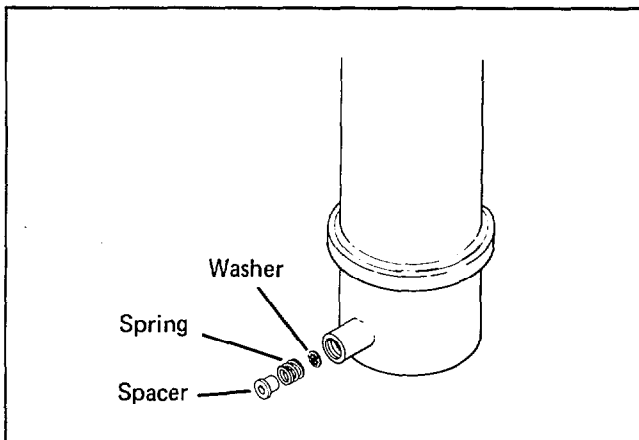

Figure 4-42 Hoist Cylinder Port
4. Reinstall the spacer, spring and washer in the cylinder port, making sure the parts are clean and that no dirt or contamination is contained in the port. See figure 4-42.